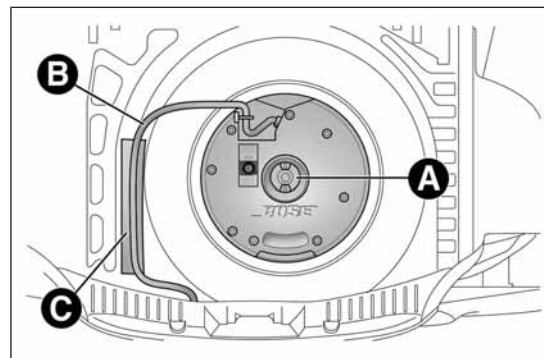

fig. 124
- ☐ unscrew locking device A fig. 124, raise the subwoofer and then remove connection cable B from the Velcro C;
- ❑ rest cable B fig. 124 on the Velcro C to avoid pinching it;